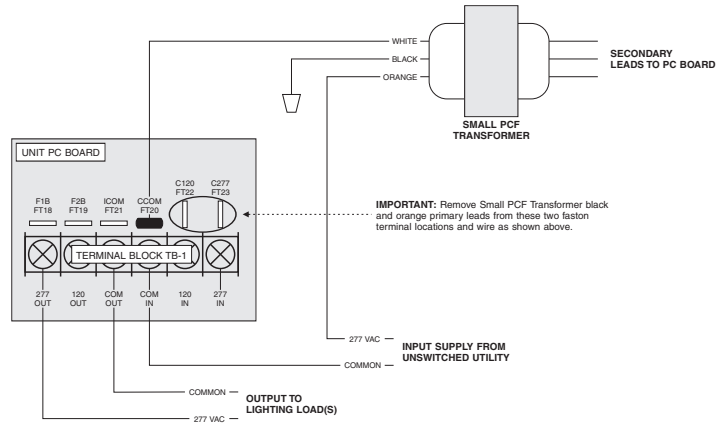

FIGURE 5
2. Disconnect the black* and orange* leads of transformer from the PC board. Cut off spade terminals from wire ends and splice appropriate lead to unswitched AC input; choosing either black for 120 volts or orange for 277 volts. Insulate unused wire. Connect input neutral to terminal TB1-4. (See Figure 5 and Figure 6).
3. Connect switched input to either TB1-5 for 120 Volts, or TB1-6 for 277 volts. (See Figure 5 and Figure 6).